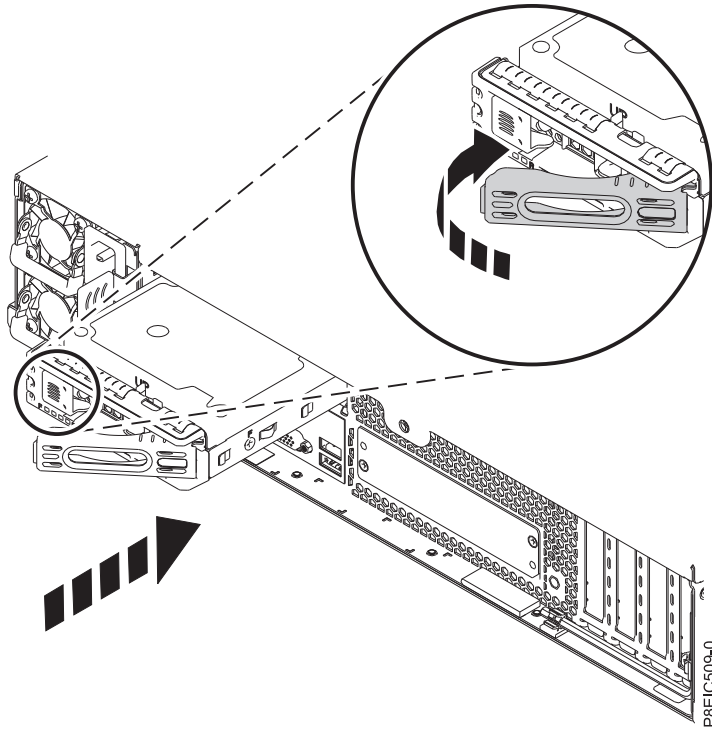

Figure 18. Locking the rear drive tray handle
6. Hold the drive tray by the bottom as you position the drive. Slide the drive tray all the way into the system. Push the drive tray in until the handle starts to close, then push the handle in until it locks, as shown in Figure 18 on page 19.